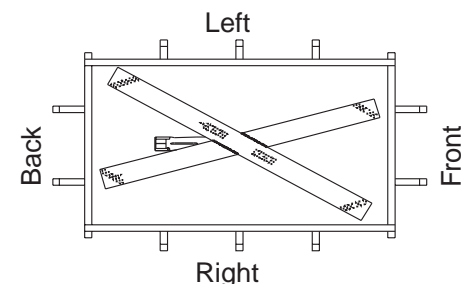

Figure 43 - Burner and Grate (Top View)
7. Figure 43, page 19, shows the top view of the burner and grate.